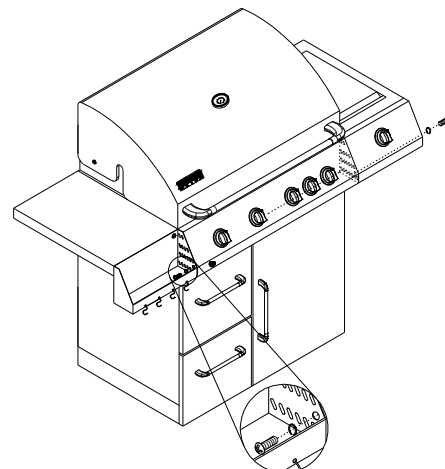

Figure 4
4. Secure condiment holder to the left of main control panel by using $\frac{1}{4}$ " x 10mm Philips head screw. Secure side control panel to the right of main control panel by using $\frac{1}{4}$ " x 10mm Philips head screw. (Fig.4)